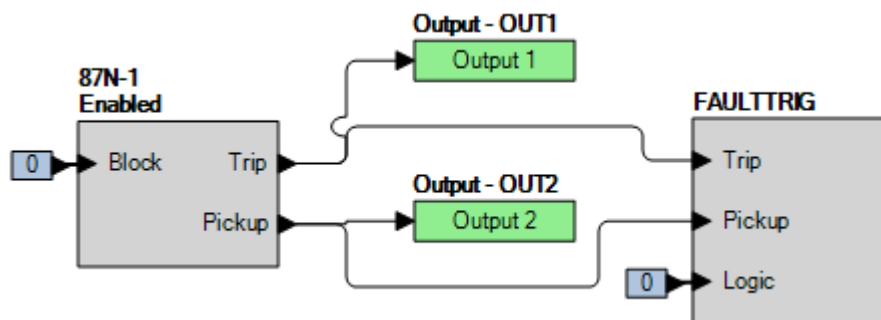

Figure 77-1. BESTlogicPlus Settings
Step 2: Use BESTCOMSPlus to configure the BESTlogicPlus programmable logic shown in Figure 77-1.
Step 3: Prepare to monitor the 87N-1 function operation. Operation can be verified by monitoring OUT2 (see Figure 77-1).
- Step 1: Use BESTCOMSPPlus to verify the operational settings in Table 77-1 and logic in Figure 77-1. Reset all targets.